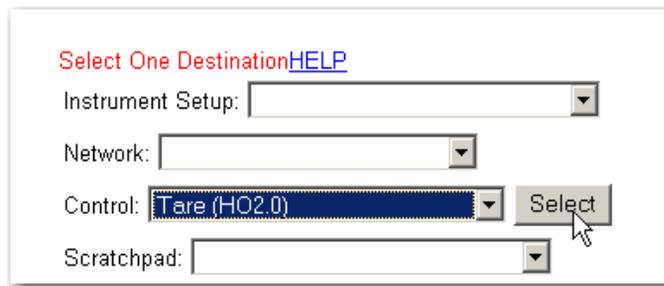

FIG. 337 DESTINATION/TARE
Step 1. Under Destination click on the Control pull down menu. (See Fig. 337)